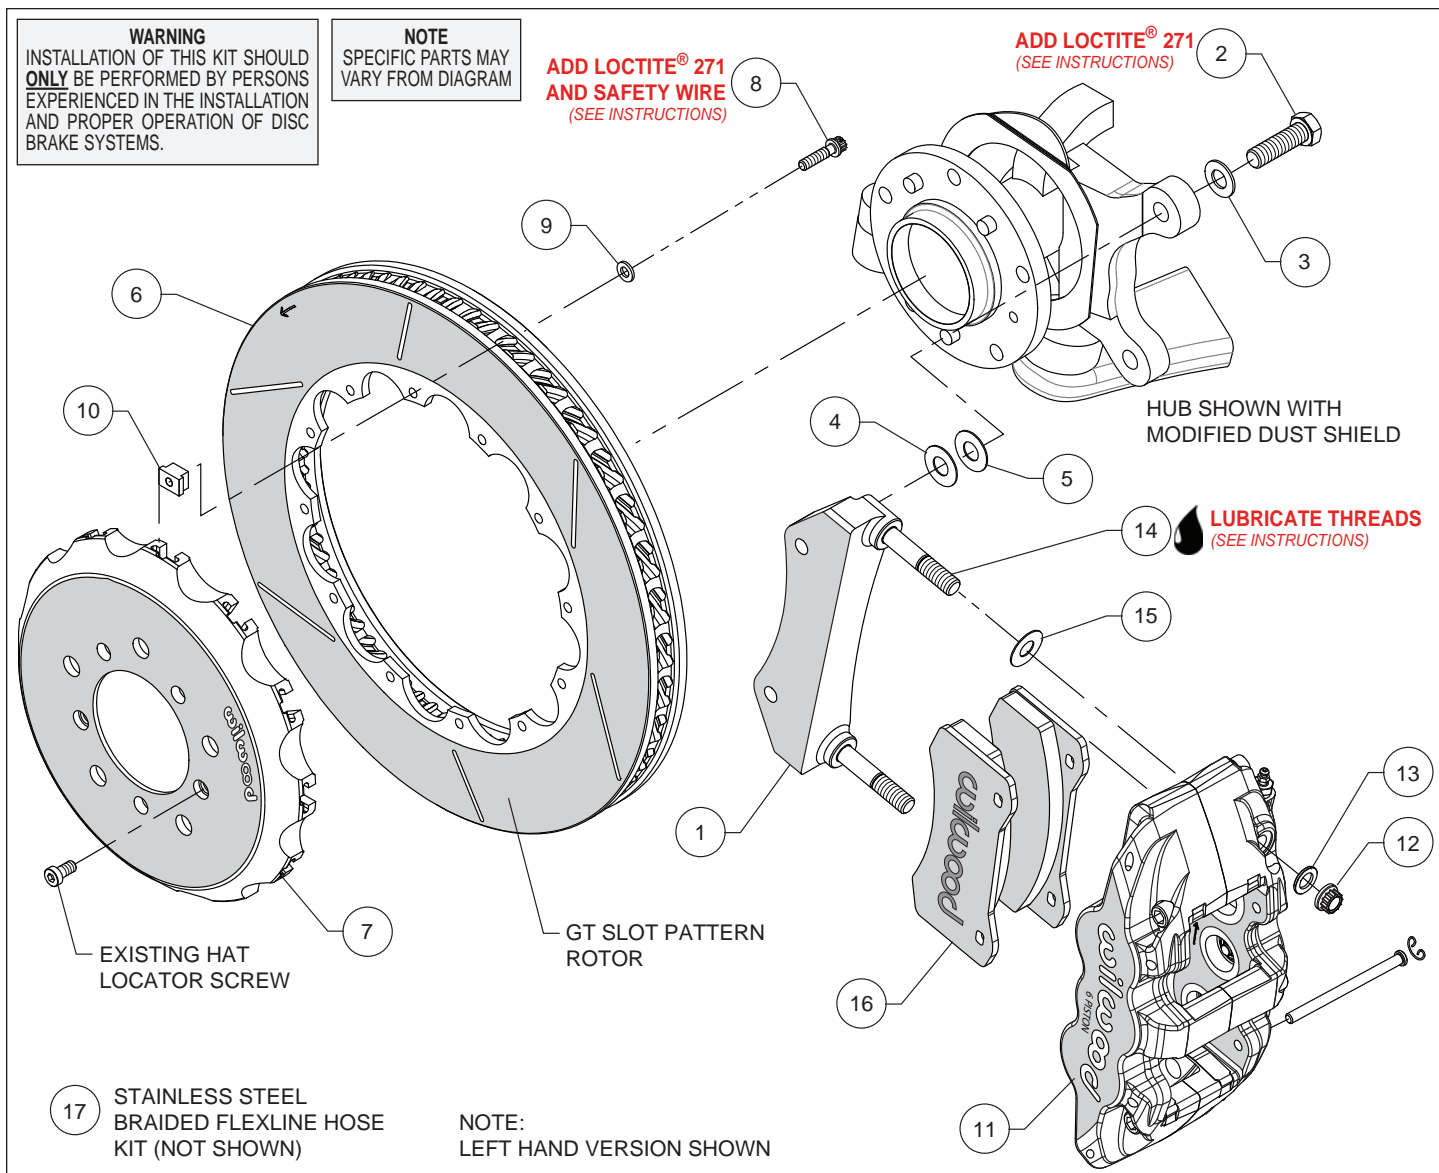
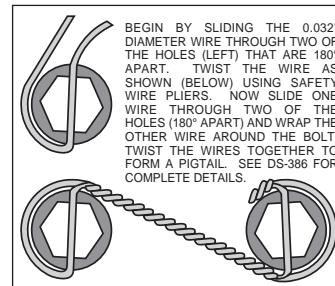

Figure 1. Typical Installation Configuration
Figure 3. Safety Wire Diagram
Assembly Instructions (numbers in parenthesis refer to the parts list and Figure 1 on the preceding pages):
- The caliper mount bracket (1) should initially be installed with clean, dry threads on the mounting bolts. Orient the bracket as shown in Figure 1 and Photo 2, and install using bolts (2) and washers (3). Initially place one .033 thick shim (4) on each bolt between the bracket and upright, Figure 1. Temporarily tighten the mounting bolts. **NOTE:** The bracket must fit squarely against the mounting points on the upright. Inspect for interference from casting irregularities, machining ridges, burrs, etc. Later, after the caliper alignment has been checked, the mount bolts will be secured using red *Loctite*® 271.
- Orient the rotor (6) and the hat (7) as shown in Figure 1 and Photo 3. Attach rotor to hat using bolts (8), washers (9), and t-nuts (10). Follow additional instructions included with the bolt kit. Using an alternating sequence, apply red *Loctite*® 271 to the threads, and torque to 120 in-lbs. Safety wire bolts using standard 0.032 inch diameter stainless steel safety wire as shown in Figure 3. Please refer to Wilwood's data sheet DS-386 (available at www.wilwood.com/Pdf/DataSheets/ds386.pdf) for complete safety wire installation instructions.
- **NOTE:** This kit contains distinct right and left hand calipers that must be mounted in a specific direction, as described below. Lubricate the caliper mounting studs (14) with lightweight oil. Initially place one .030" thick shim (15) on each stud between the caliper and the bracket, as shown in Figure 1 and Photo 5. Mount the caliper (11) onto the bracket (1) using lock nuts (12) and washers (13), Figure 1. Ensure that the caliper is mounted so the largest pistons are at the rotor exit end of the caliper, in relation to the direction of rotor rotation. Temporarily tighten the lock nuts and view the rotor through the top opening of the caliper. The rotor should be centered in the caliper, Photo 6. If not, adjust by adding or subtracting shims (4 and/or 5) between the bracket and the upright. Always use the same amount of shims on each of the two mounting bolts. Once the caliper alignment is correct, remove the bracket mounting bolts (2) one
- Remove the caliper (11) then remove the two pad retaining pins by carefully popping out the pin retaining clips and sliding out the pins. Insert the brake pads (16) into the caliper from the bottom, Figure 1 and Photo 7. With the friction material facing the rotor, secure the brake pads in place with the pad retaining pins and clips, Photo 8. Reinstall the caliper onto the caliper mounting bracket and temporarily tighten the lock nuts (12). Check that the top of the brake pad is flush with the outside diameter of the rotor, Photo 9. If not, adjust by adding or subtracting shims (15) between the caliper and the bracket. After the caliper pad height is set, torque the caliper lock nuts (12) to 47 ft-lb.